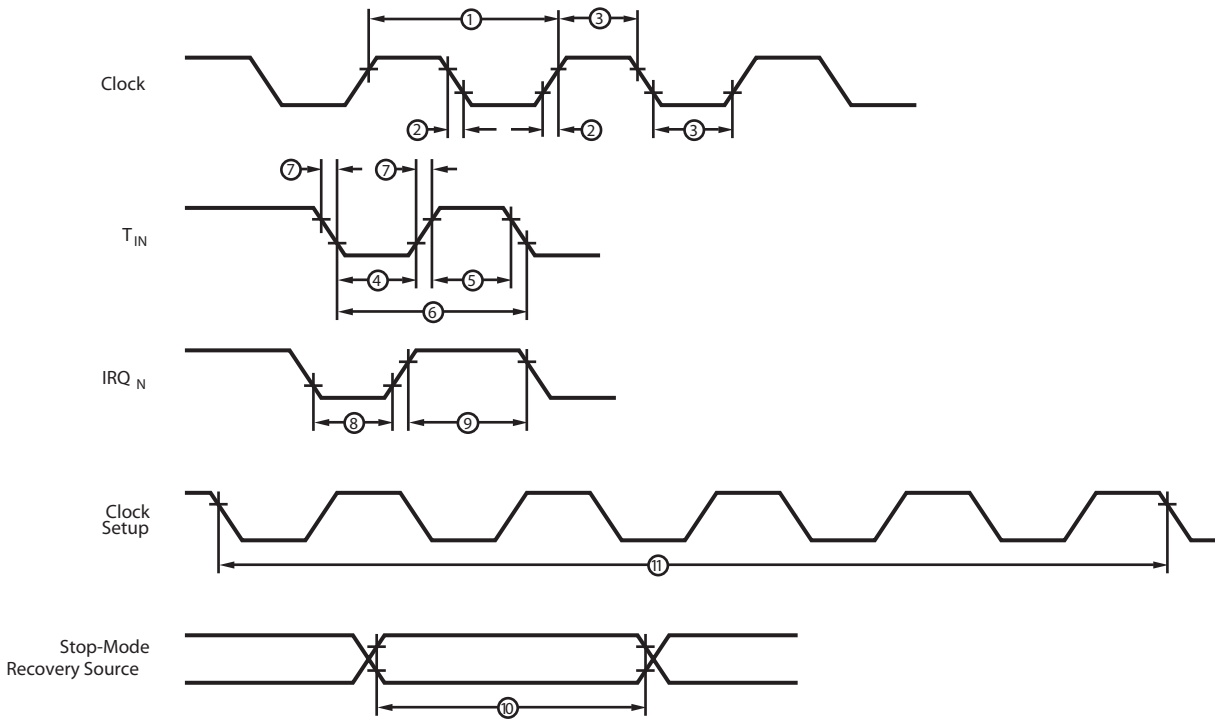

Figure 49. AC Timing Diagram
Figure 49 and Table 82 lists the alternating current (AC) characteristics of ZLF645 Flash MCU.